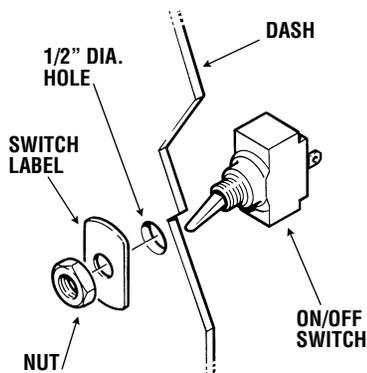

Figure 2-22. ON/OFF Switch Assembly
2. Drill a 1/2" diameter hole through the dash for the switch. Make sure you have clearance behind the dash for the switch wires and connections. Install the switch as per the diagram. (Figure 2-22.)